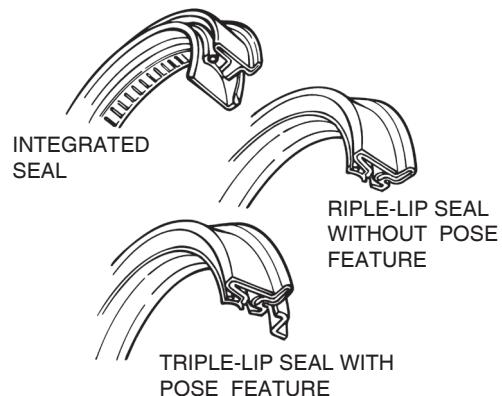

Figure 5.66
- For unitized pinion seals, look the unitized pinion seal installation procedure in this section and then proceed to Step 4. Figure 5.66.
- If you installed a unitized seal on the output bearing cage, look the procedure in this section, and then proceed to Step 7. Figure 5.66.